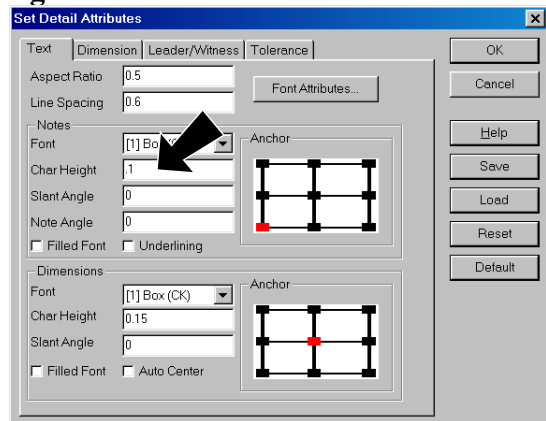

FIG. 11
Step 5. In the Set Details Attributes set the **Note Character Height to .1**, **Fig. 11** and click OK.